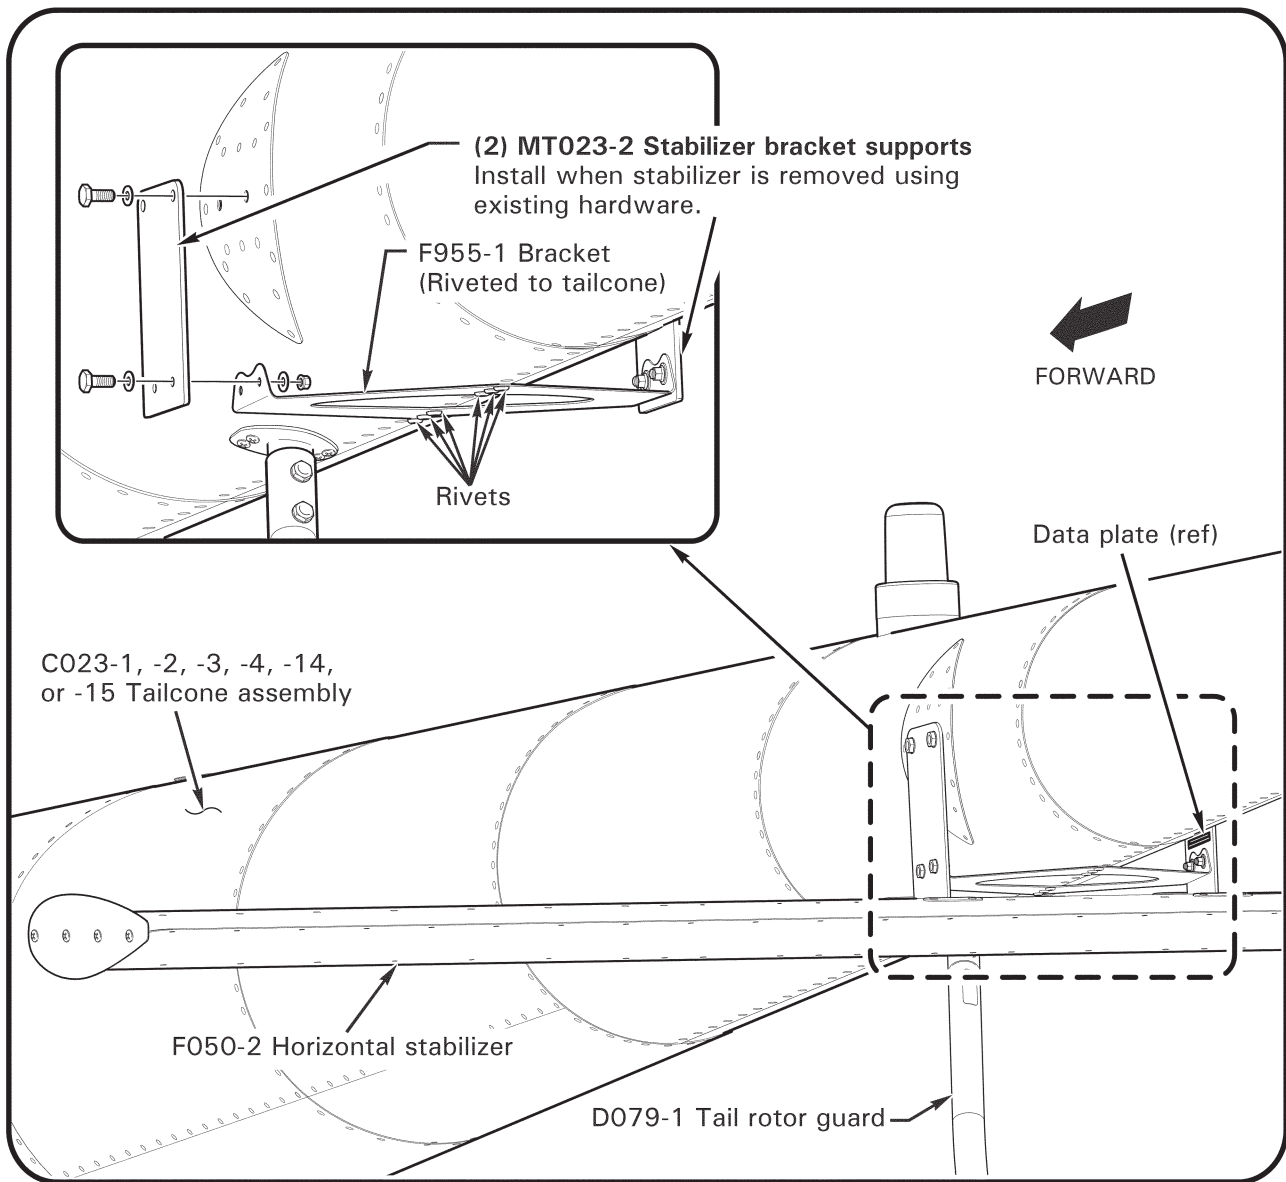

FIGURE 4-6 F050-2 HORIZONTAL STABILIZER ASSEMBLY
1. Refer to Figure 4-6. Remove hardware securing F050-2 horizontal stabilizer assembly to F955-1 or -6 bracket.